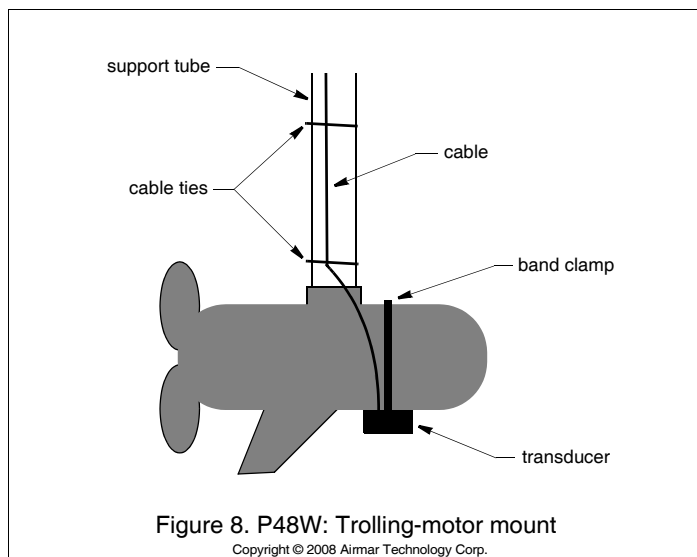

Figure 8. P48W: Trolling-motor mount
3. Wrap the band clamp around the motor case with the transducer located on the underside (Figure 8). Tighten the screw on the band clamp.